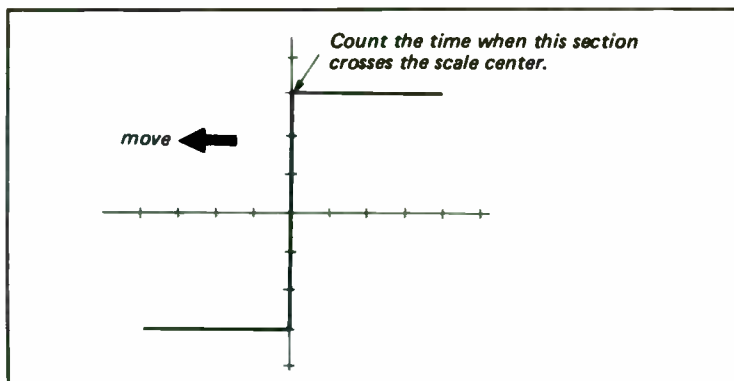

Fig. 4-11. Drum free speed check.
- 6—Confirm that it takes 20 to 27 seconds for the waveform shown in (Fig. 4-11) to move fifteen times to the left.
- 8—Connect the brake coil plug disconnected in step (3) after this check.